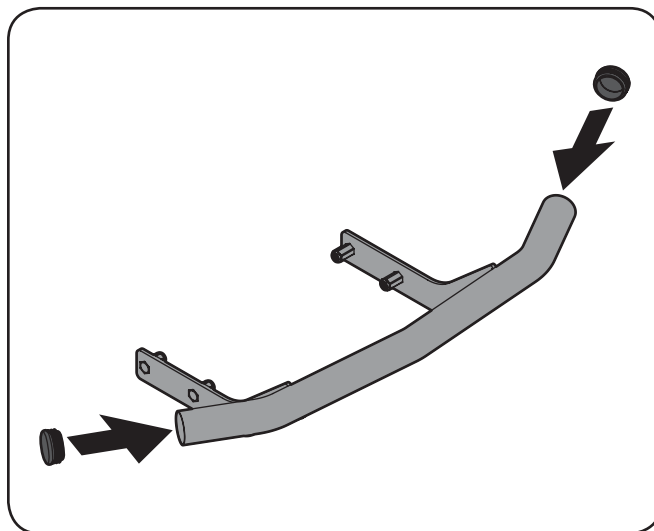

Figure 1-2
1. Place a bumper cap onto each end of the front bumper tube. See Figure 1-2.